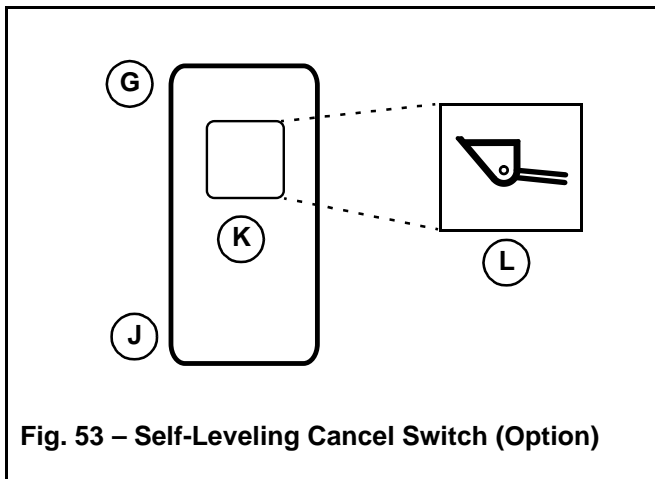

Fig. 53 – Self-Leveling Cancel Switch (Option)
To deactivate self-leveling, press the top (G, Fig. 53) of the self-leveling cancel switch (K). To restore self-leveling, press the bottom (J) of the self-leveling cancel switch.